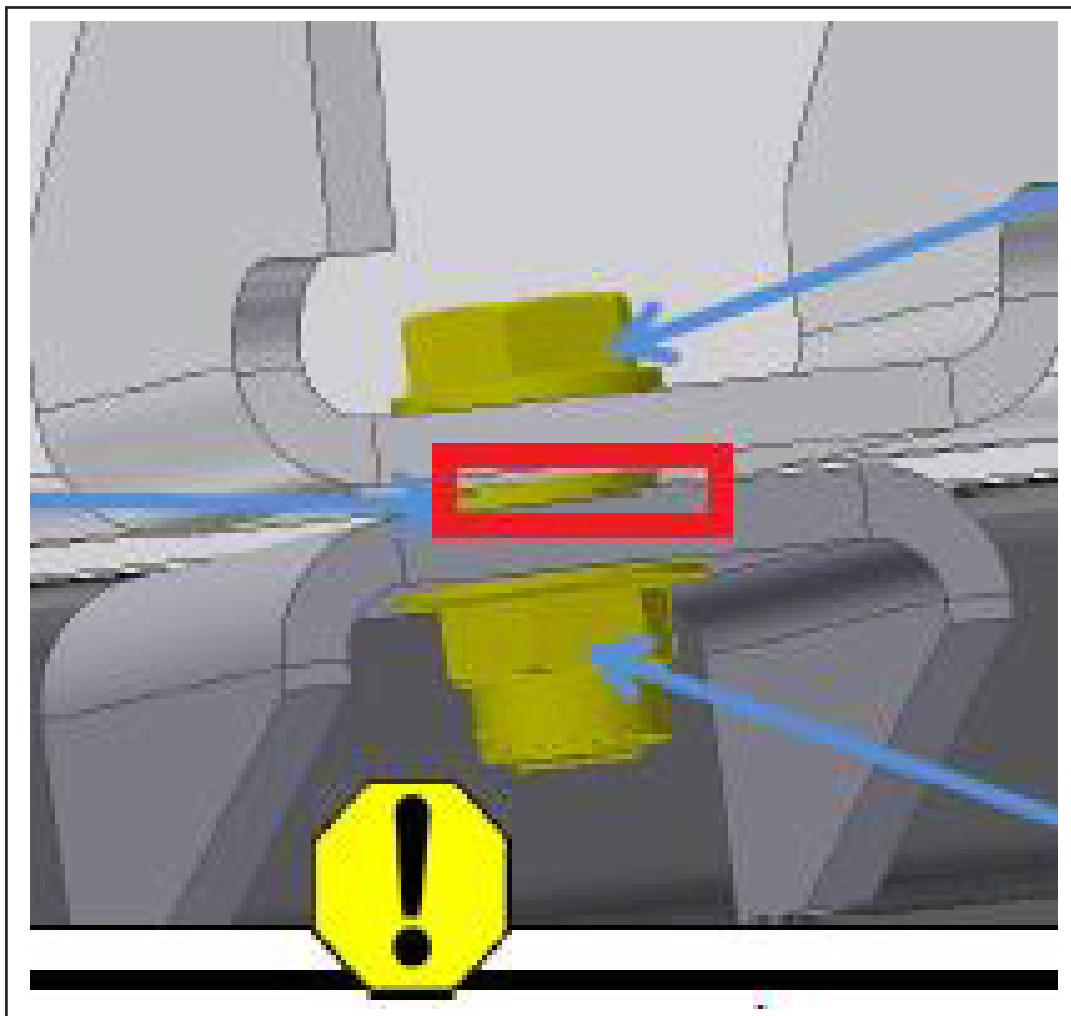

Figure 5 - Installation of Washer
- 1.16. For position 4,5 and 6 washer added between the structure and fuel tank cradle to fill the gap during installation (see figure 5).